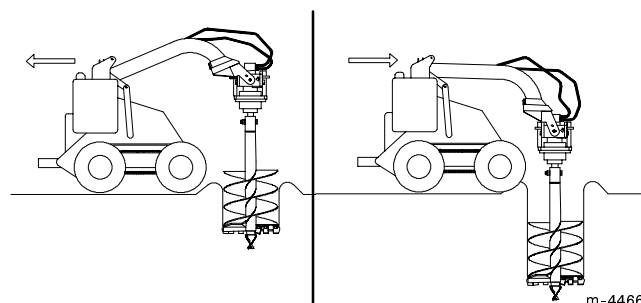

Figure 8
5. Lower the auger slowly as the soil is loosened. As you dig deeper, move the traction unit backward, forward, right, or left as required to keep the hole vertical (Fig. 8).